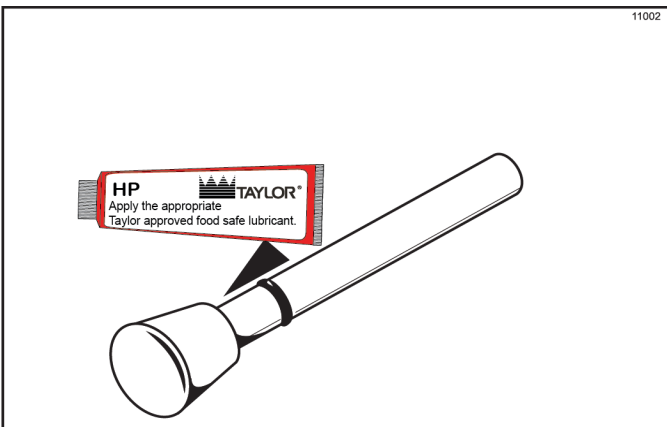

Figure 6-15
14. Install and lubricate the pivot pin O-ring. (See Figure 6-15.)